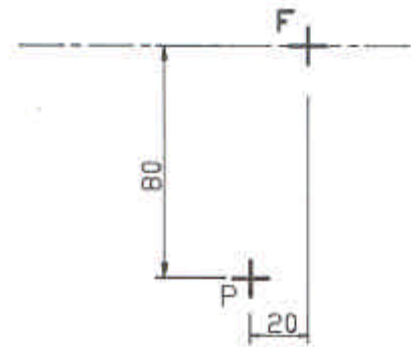

Fig. 6
- (b) Fig. 6 shows the direction of the axis and the focus of a hyperbola with an eccentricity of 1.5. The curve passes through the given point P. Show how the position of the directrix is located and draw a portion of the hyperbola.